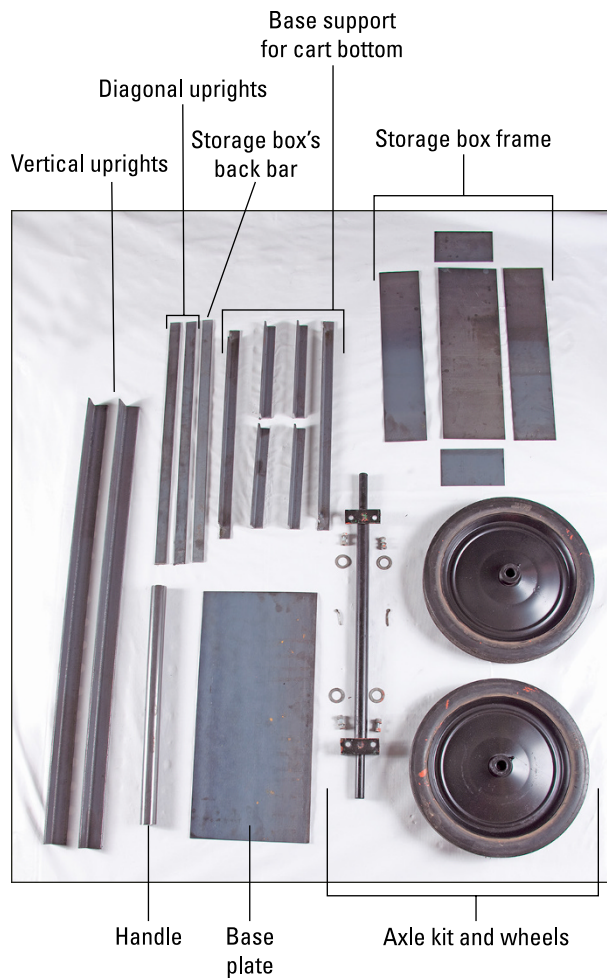

FIGURE 16-2:
Figure 16-2 shows you all the necessary pieces.
3. When you're done making cuts, lay out all the parts like you see in Figure 16-2 earlier in the chapter.